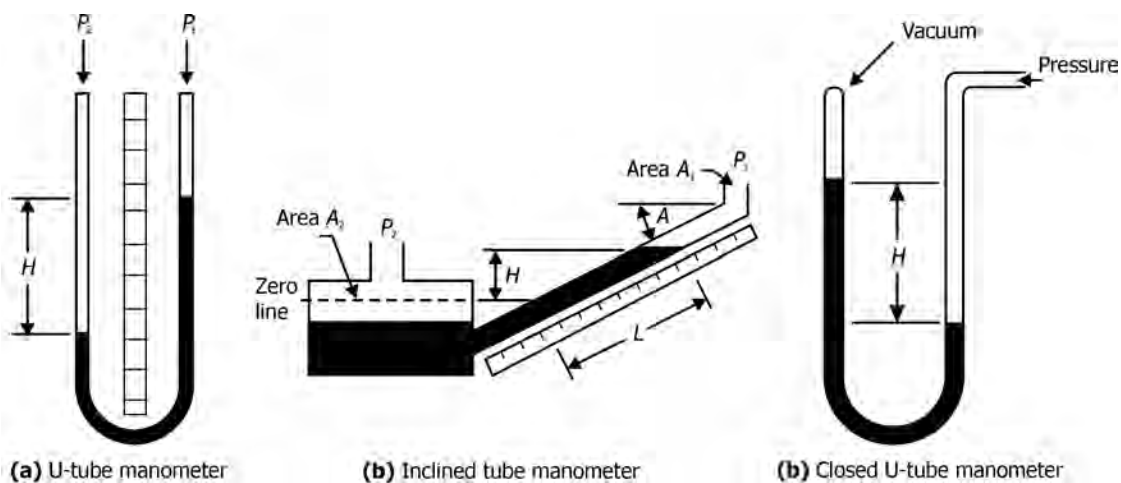

FIGURE 1.10 Different types of manometers.
- U-tube, inclined, and two-liquid types of manometers are in common use. These are illustrated in Figure 1.10.